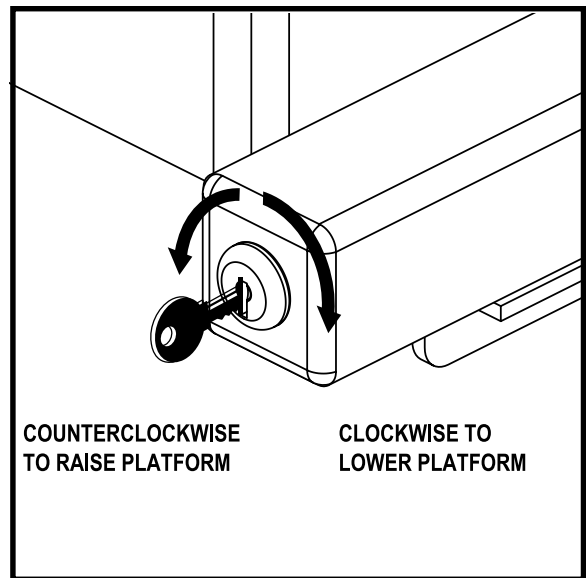

Figure 6. Key Switch Operation
5. Insert the key into the key switch (see figure 6) and turn it clockwise to lower the T-bar to its lowest extension.
2. Turn and hold the key clockwise to lower the lift platform. See figure 6. Release the key as soon as the lift platform touches the ground.
6. Turn and hold the key counterclockwise to raise the lift. See figure 6. Continue to raise the lift until the mobility device floorboard makes firm contact with the lock-down arm, then release the key.